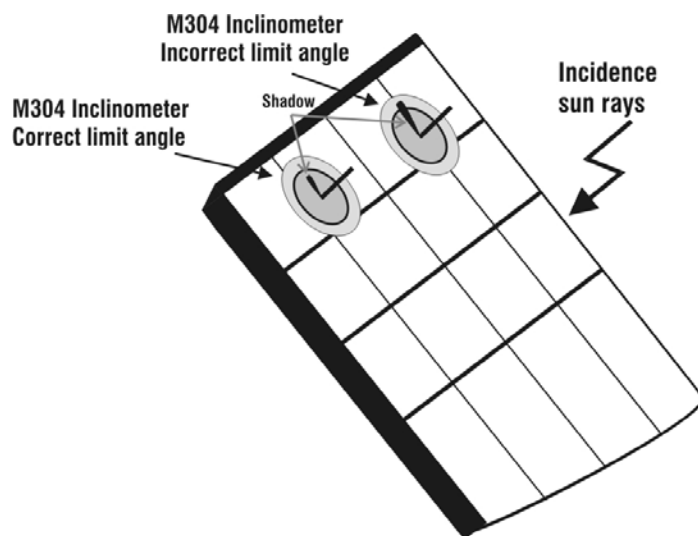

Fig. 6: Positioning the M304 inclinometer
11. Mount the M304 (inclinometer) supplied accessory, place and hold it on the plane of module. **Verify that the sun shadow falls on the disc within the “limit internal circle” on the disc itself (Fig. 6). If this is not the case, the incidence angle between sun rays and the module surface is too high and not complying with the test conditions declared by the module manufacturer. As a consequence the measurements performed by the meter are not ok and all measurements steps shall be repeated at another daytime.**